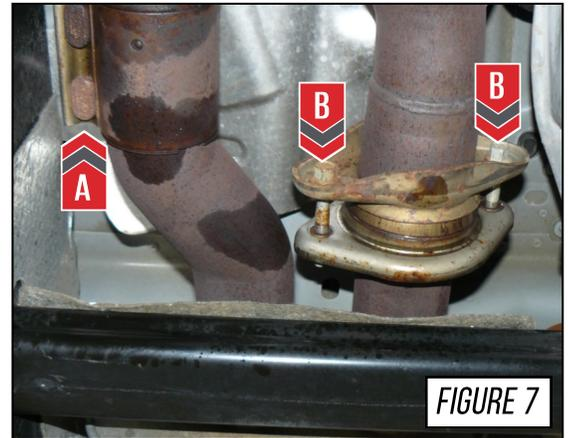

FIGURE 7
Loosen the factory sleeve clamp, as shown by **Arrow A** in **Figure 7**.
Loosen and remove the M10 bolts that secure the ball-joint flange in place, location shown by **Arrows B** in **Figure 7**.
**PRO-TIP:** From *Step 1*, this hardware should have received a penetrant oil to help with removal. As shown by **Arrow A** in **Figure 7**, the sleeve clamp nuts are facing up, which makes removal very difficult, the oil should help. An additional retainer clip keeps this clamp attached to the factory downpipes, leave the clamp in place, once properly loosened.